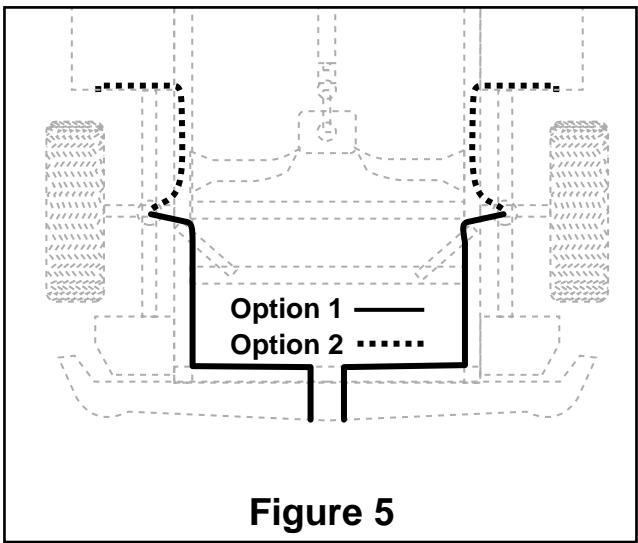

Figure 5
8. Select a location for the inflation valves in the rear bumper area or rocker panel flange insuring that each valve will be protected and accessible with an air hose (Figure 5).
10. Route air line along frame to desired inflation valve location (Figure 5). Attach air line to chassis with the provided plastic straps.